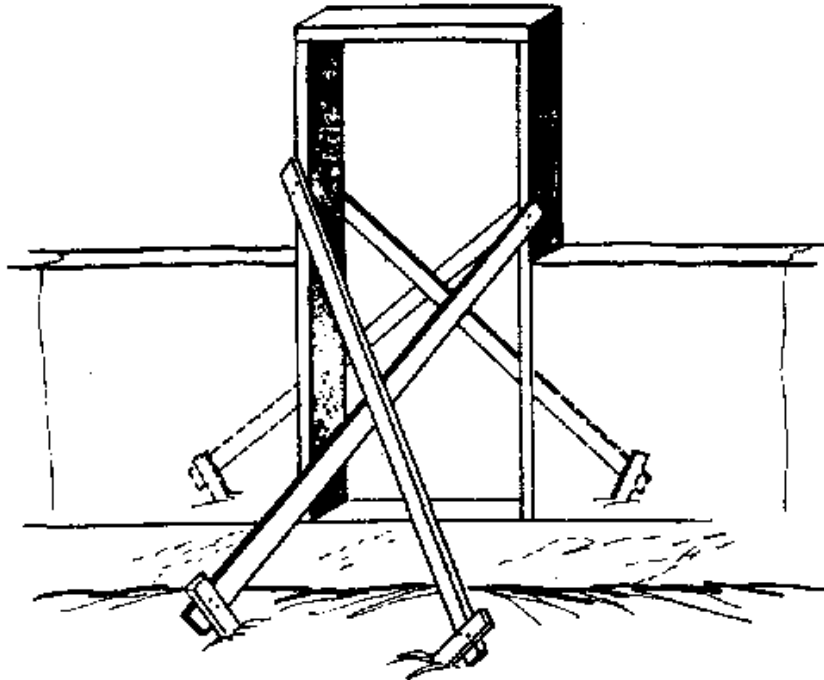

Figure 82.
*DOOR AND WINDOW OPENINGS* - Openings for doors and windows can be done two ways in rammed earth construction. One way is to set the door and window frames first and ram the earth around them. If this is done the frames should be solidly braced as shown in Figure 82 otherwise they will be forced out of place by the high pressures produced by ramming. Brace door and window frames across the diagonals also so the openings will remain square. Frames should be as wide as the walls and should have ties sticking into the wall to hold them firmly in place.